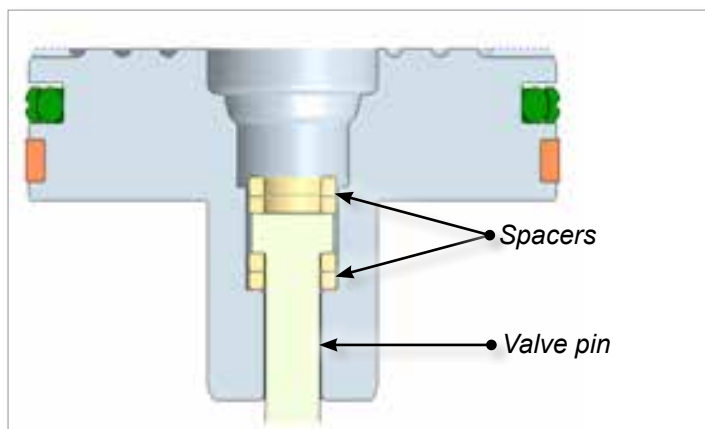

Figure 4-8 Install valve pin and spacers
4. Install the remaining two valve pin spacers (thickness = 2.0 mm and 2.3 mm) on top of the valve pin. See Figure 4-8.